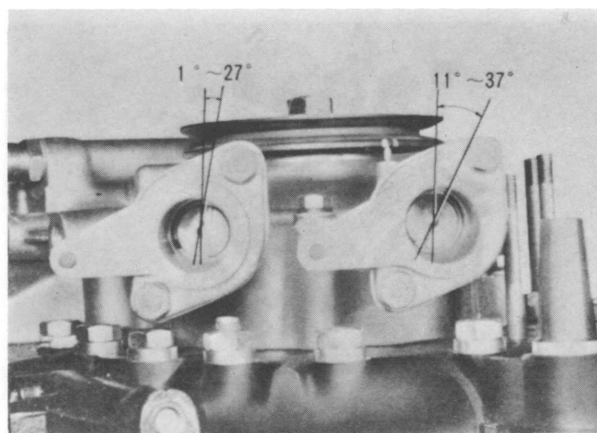

Fig. 1-117 Position of distributor sockets
2. Install the leading side distributor socket through the gasket to the front housing so that the groove on the upper side of the drive shaft points $1^{\circ} \sim 27^{\circ}$ to the right against the longitudinal axis of the engine, as shown in Fig. 1-117.